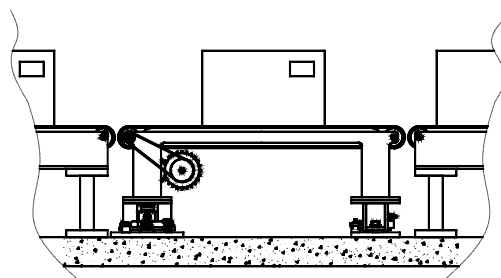

Figure 6-5: High-Speed Conveyor Scale
- **High-Speed Conveyor Scale:** High-speed conveyor scales with heavy capacities are rare. If settling time is critical for this type of application, stabilizers should be used to steady the scale (see Figure 6-5).